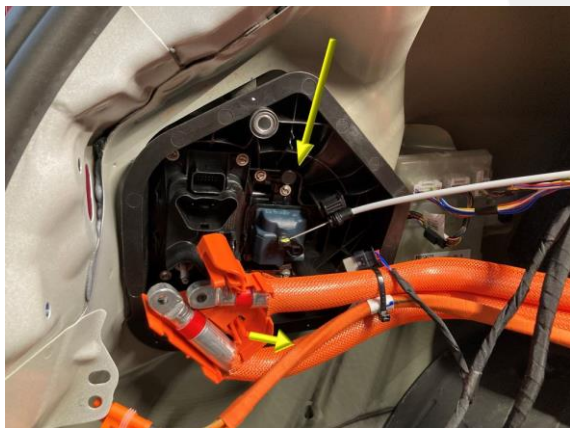

Figure 6
6. Loosen the bolts (x3, 10 mm) that attach the charge port assembly to the vehicle, and then remove the charge port from the vehicle (Figures 6 and 7).